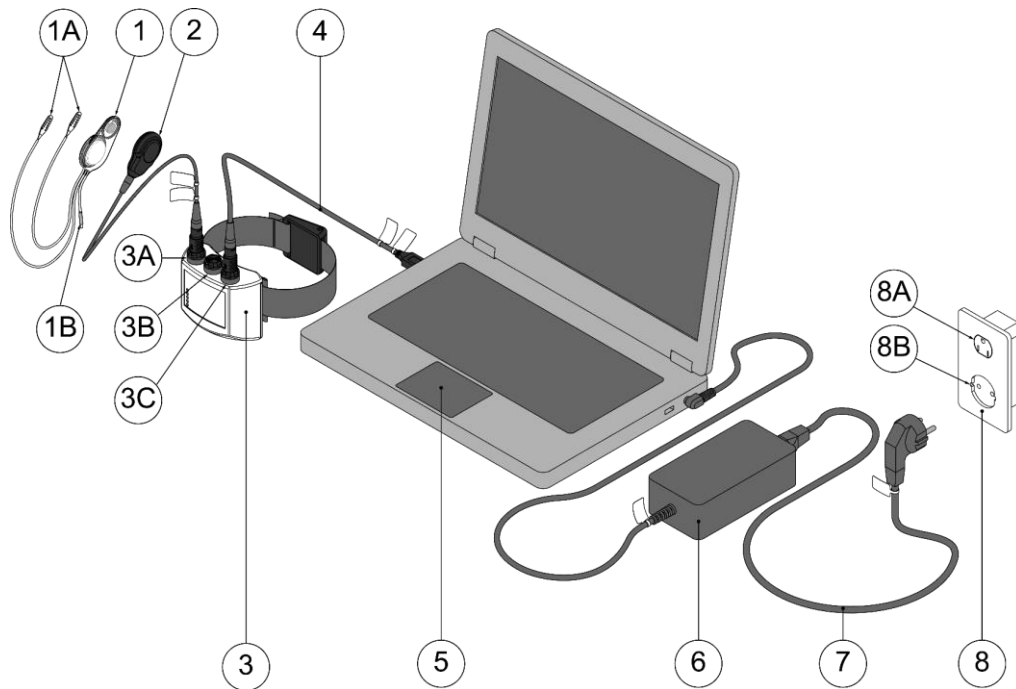

Figure 1: BIC System
The system (Figure 1) consists of an Implantable Unit (1), an External Unit (2, 3) and a Computing Unit (5).